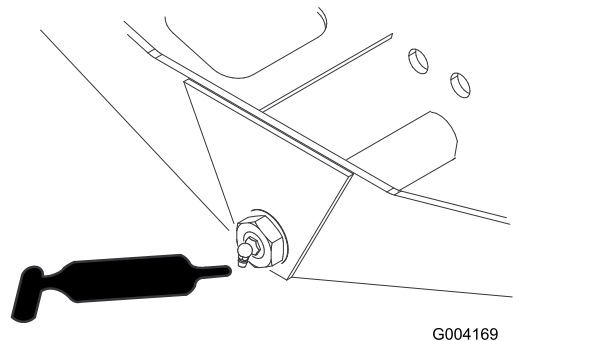

Figure 66
- Axle steering pivot (1) (Figure 66)